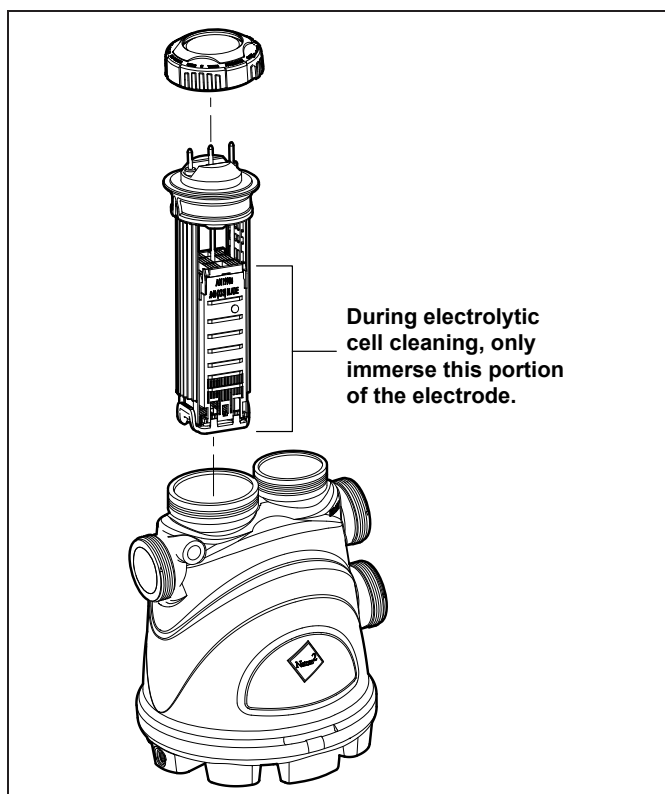

Figure 18. Electrolytic Cell Cleaning
5. Mix cleaning solution in a suitable plastic container by adding one (1) part of hydrochloric (muriatic) acid to ten (10) parts water. Note: To avoid splash, always ADD MURIATIC ACID TO WATER rather than water to muriatic acid. Solutions stronger than 1:10 will damage the electrolytic cell and void warranty. Submerge only the plates of the electrolytic cell in the cleaning solution. See Figure 18. Allow the cleaning solution to dissolve the calcium deposits for approximately five (5) minutes.